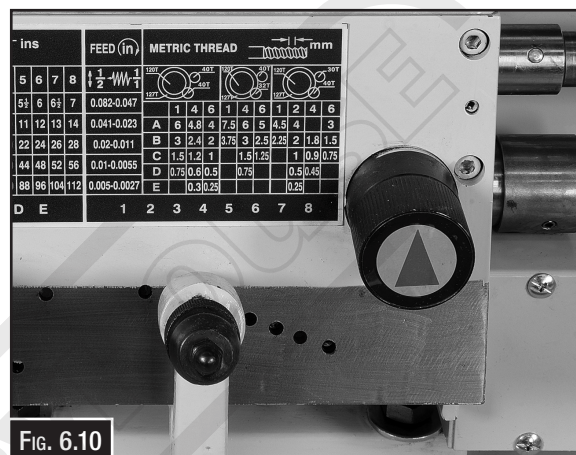

Fig. 6.10
2. Point the feed direction dial pointer to the middle position (Fig. 6.10). This allows the feed rod to move freely so adjustments can be made to the clutch.